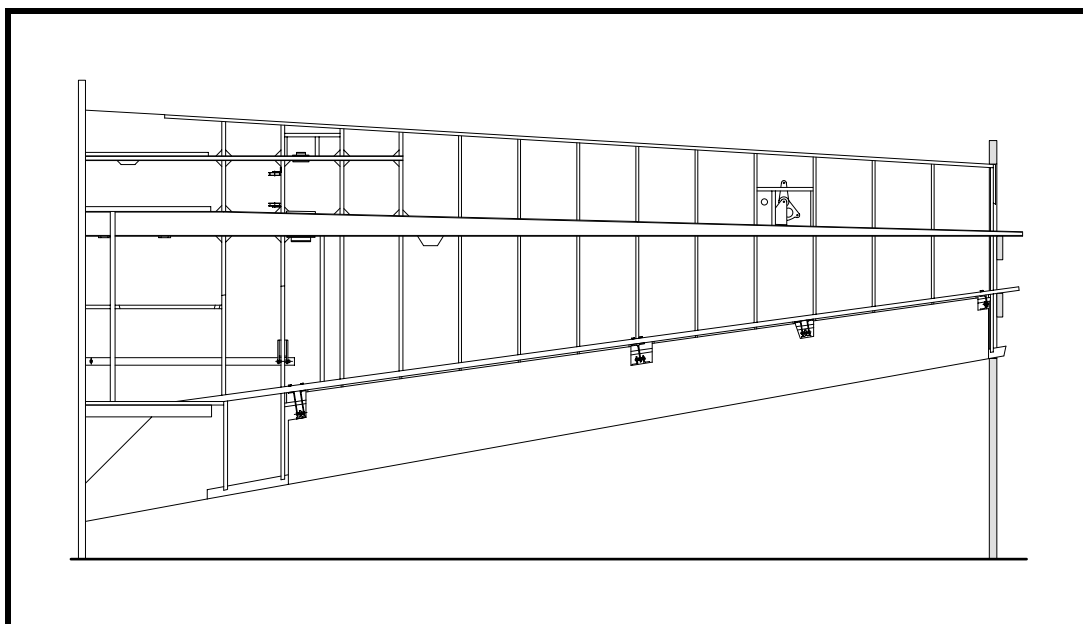

Figure 19
- ❑ Glue the two 20x20 stringers on the bottom of the fuselage. See Figure 19. At the forward end, the stringers are glued to the bottom of the main wing spar, and at the aft end they are glued to the two saddle gussets on the front face of fuselage frame No. 6. The outboard face of these stringers is at B.L. 140, regardless of what type of wheel well is planned. These stringers are bowed into place, that is, they take a bend that follows the curve of the bottom of the fuselage.